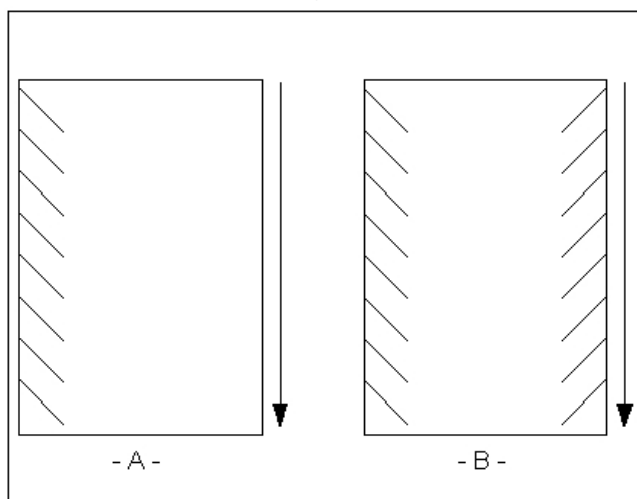

Fig 47
5. Angled waves in the output (Figure 47 A & B).